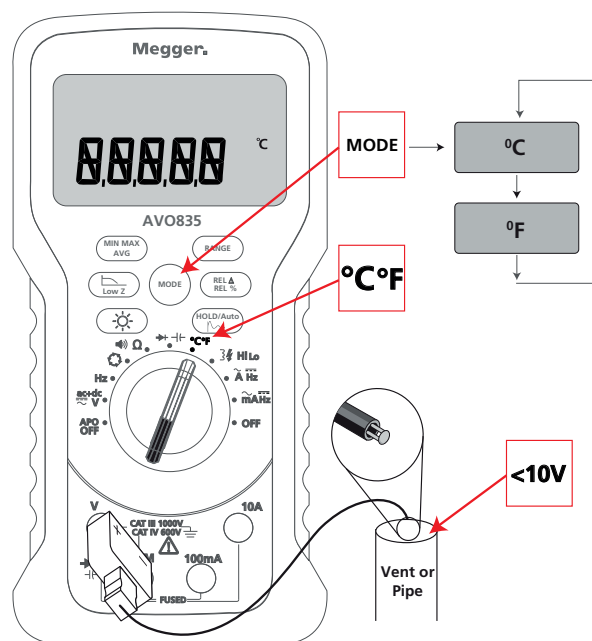

Fig 10: Temperature Measurement Set-up
1. Set-up the instrument as shown in Fig 10.